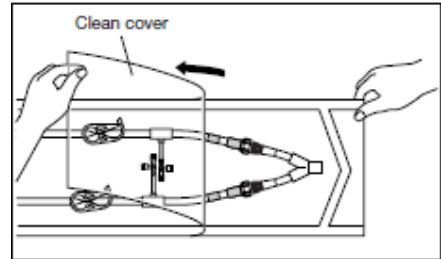

Figure 16
2. Remove the clean cover pulling from the corner (Figure 16).